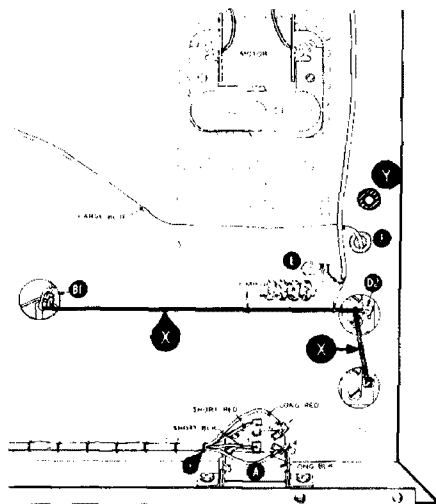

fig. 2. Under-chassis modifications to the SB200. Remove wires marked with X. Drill new 3/8" hole at position Y.
heavy bus wire connection which comes from wafer B on the top side of the chassis to C28 on the underside of the chassis (marked X in fig. 2).
20. Drill a 3/8-inch hole in the chassis (location Y in fig. 2) just above grommet F. Install a 1/2-inch rubber grommet.
23. Using the 2 1/2-inch stripped end of the RG-8/4 cable, attach and solder the braid to solder lug K (fig. 2).
25. Solder the shield braid at the other end of this piece of RG-8/U to solder lug E (Fig. 2).